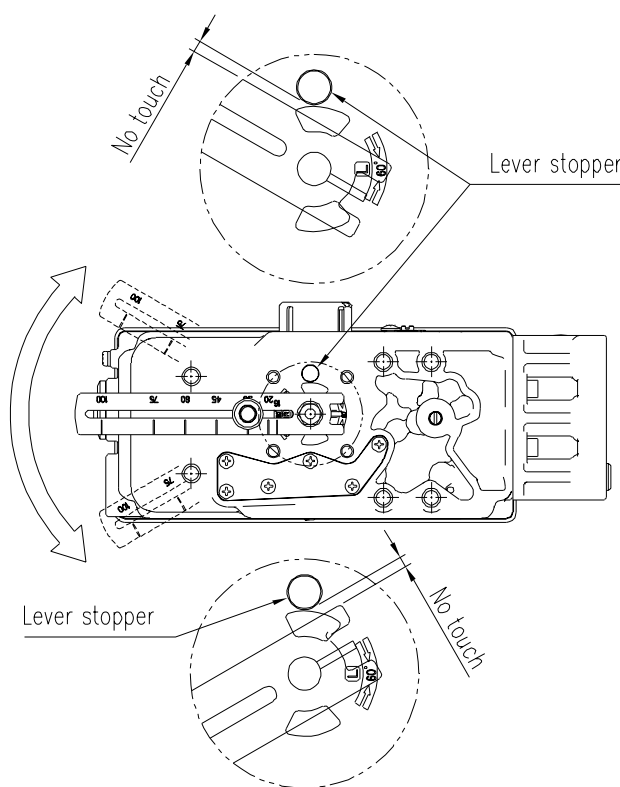

Fig. 3-8: C330L Feedback lever should not touch lever stopper on 0 % ~ 100 % valve stroke.
- 8) After installing the positioner, operate the valve from 0 % to 100 % stroke by using direct air to the actuator. On both 0 % and 100 %, the feedback lever should not touch the lever stopper, which is located on the backside of the positioner. If the feedback lever touches the stopper, the adapter holder should be moved or the adapter of feedback lever should be moved further away from the main shaft of the positioner. Refer to Fig 3-8.